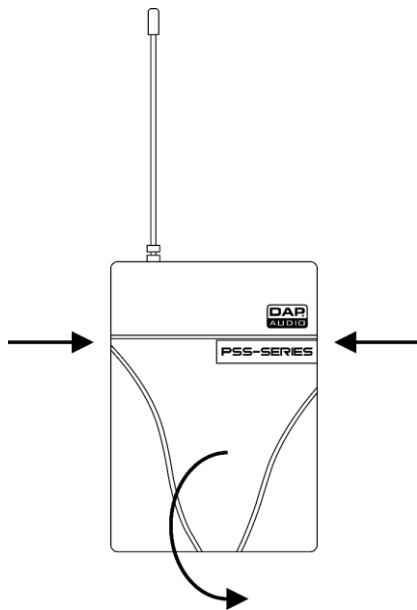

Fig. 10
- 01) Press on the sides of the beltpack and open the battery cover (Fig. 10) to gain access to the battery housing (Fig. 11).